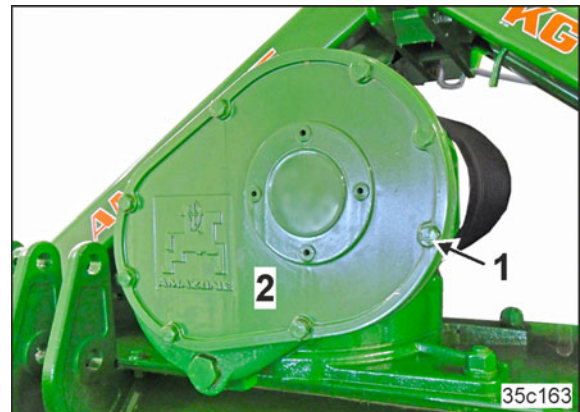

Fig. 160
6. Loosen the bolts (Fig. 160/1)
7. Open the gearbox cover (Fig. 160/2)